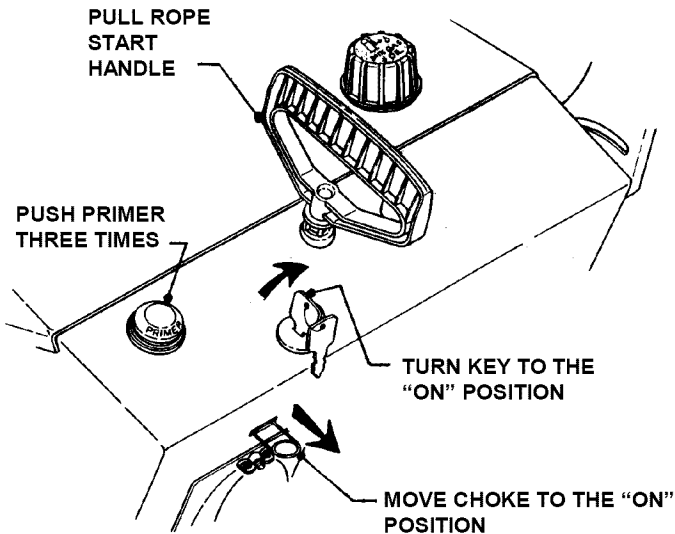

FIGURE 2.4
See Figure 2.4.
3. Push primer button three times to start a cold engine. **NOTE:** Do not use primer button to start warm engine. See Figure 2.4.